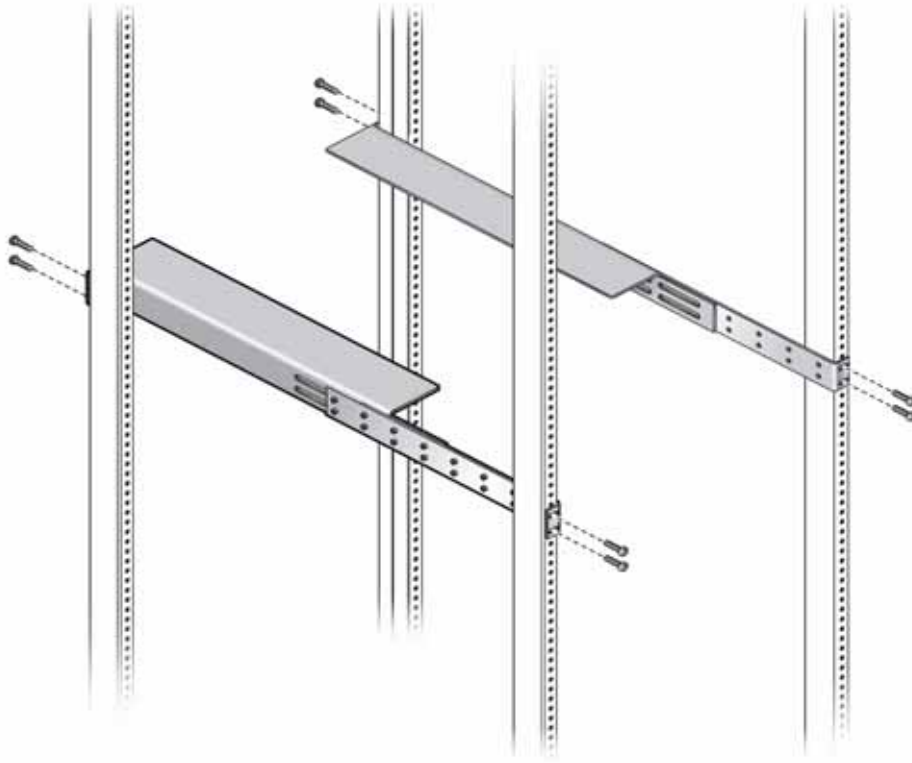

Figure 3 Installing Assembled Rack Mount Rails into Equipment Rack
- Step 12 When both rails are assembled, use the 10-24, 10-32, or M6 pan-head screws from the rack mount rail box to install rails into the rack as shown in Figure 3 on page 16. Because you did not completely tighten the screws when you assembled the rails, you should be able to slide the rails lengthwise to accommodate the depth of the rack.
- Step 14** Load the chassis into the rack so that the I/O-module side is supported on the horizontal surface of the rails. See Figure 3 on page 16 for the horizontal surface of the rails.